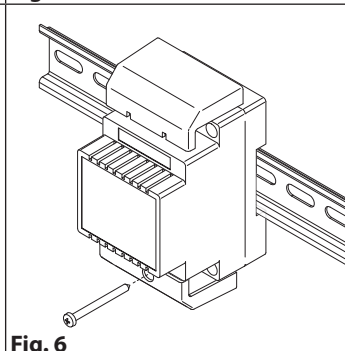

Fig. 6
6. Once testing is complete and all the necessary adjustments are made, disconnect the handset from the cover and close the unit as shown in Fig. 6: first hook it on the bottom then push in the top until you hear a "CLICK!".
5. When all connections are made replace and fix the terminal covers with the relevant screws (**Fig. 6**);